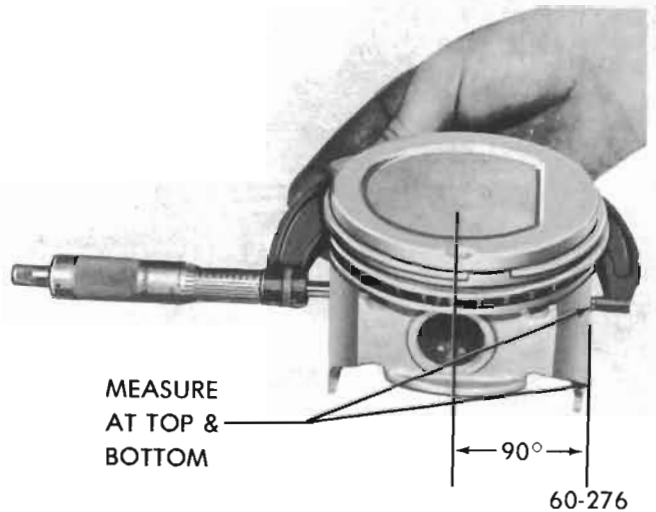

Figure 60-42--Measuring Piston
applied to the skirt at points 90 degrees to the piston pin. See Figure 60-42. The piston should be measured (for fitting purposes) 1/2" below the top of piston.
2. Measure the piston to be installed. See Figure 60-42. The piston must be measured at right angles to the piston pin 2-1/2" below the top of piston. The piston must be between .0005" and .0011" smaller than the cylinder bore.